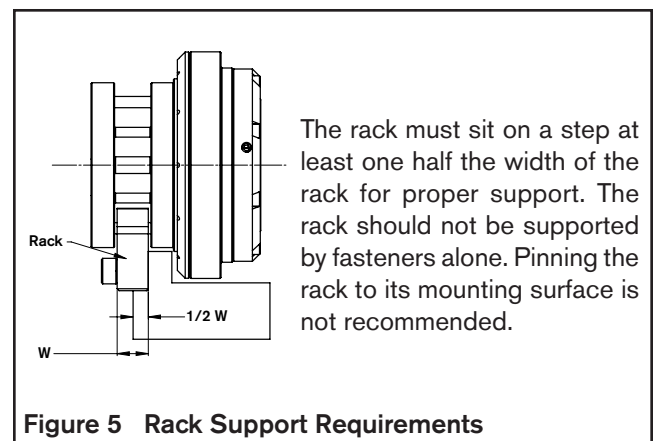

Figure 5 Rack Support Requirements
- The bottom and one side of the rack must be supported by a step in the machine bed. The height of this step should be at least half of the rack thickness. The rack should not be solely supported by fasteners or pins. See Figure 5 for specifications.